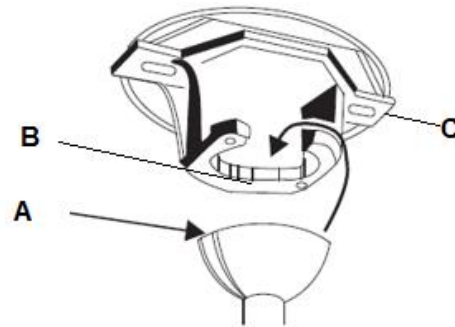

Fig. 9
4. Hang the complete fan assembly onto mounting bracket. (“Hanging the fan” section & Fig. 9)
## **HANGING THE FAN (Fig. 9)**
Lift the fan assembly onto the mounting bracket. Ensure the key slot (A) of the hanger ball is positioned on the key pin (B) of the mounting bracket (C) to prevent the fan from rotating when in operation. (Fig.9)